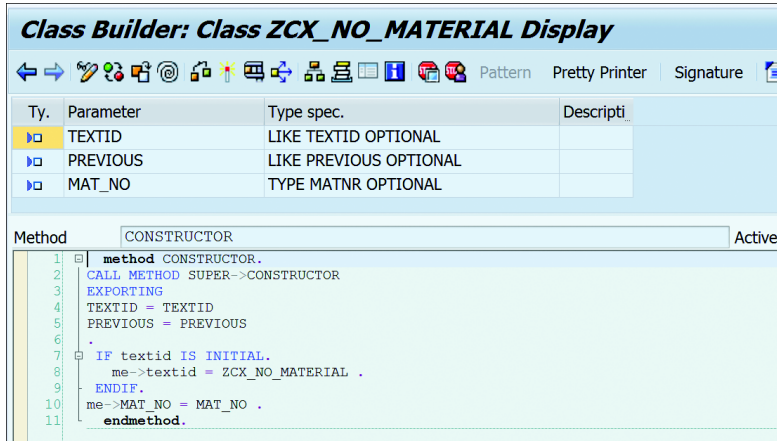

Figure 9.22 Signature of Constructor
- The class constructor automatically adds the attributes that you've added as importing parameters to its signature, which can be passed while raising the exception using the EXPORTING keyword. The constructor ensures that all the attributes are initialized properly. The textid attribute stores the EXCEPTION ID to access the corresponding text. The previous attribute stores the previous exceptions in the context. Figure 9.22 shows the signature and initialization code of the constructor method after adding the mat_no attribute.